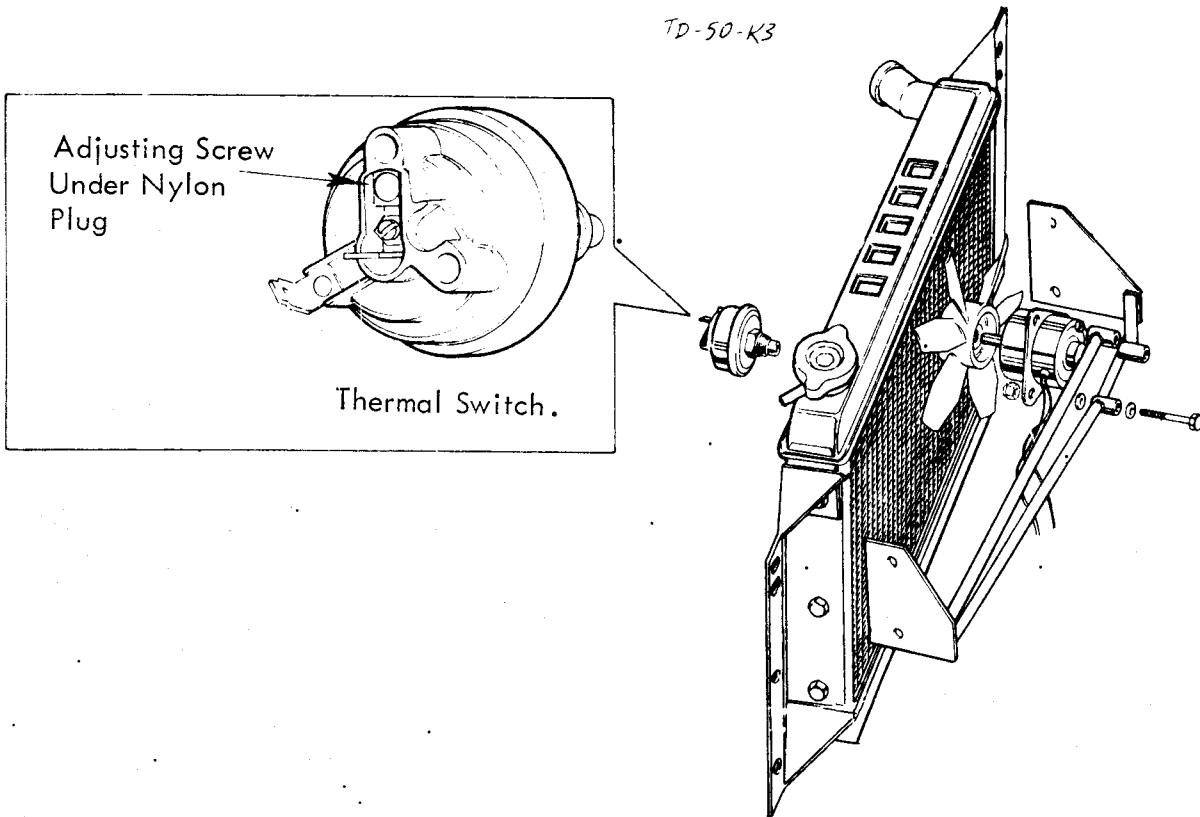

Fig. 3. ELECTRIC FAN COMPONENTS
2. Only then, turn the adjusting screw (see Fig. 3 on page 6) anti (counter)-clockwise until the fan 'cuts out', using no undue pressure either in a downwards or sideways direction.